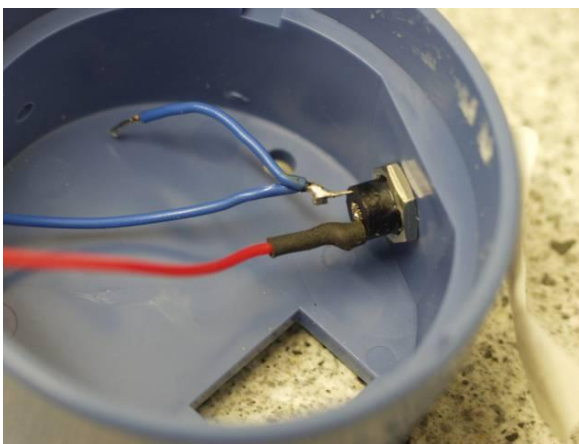

Fig. 12
2) Mounting the charging socket (s. Figs. 12 and 13)